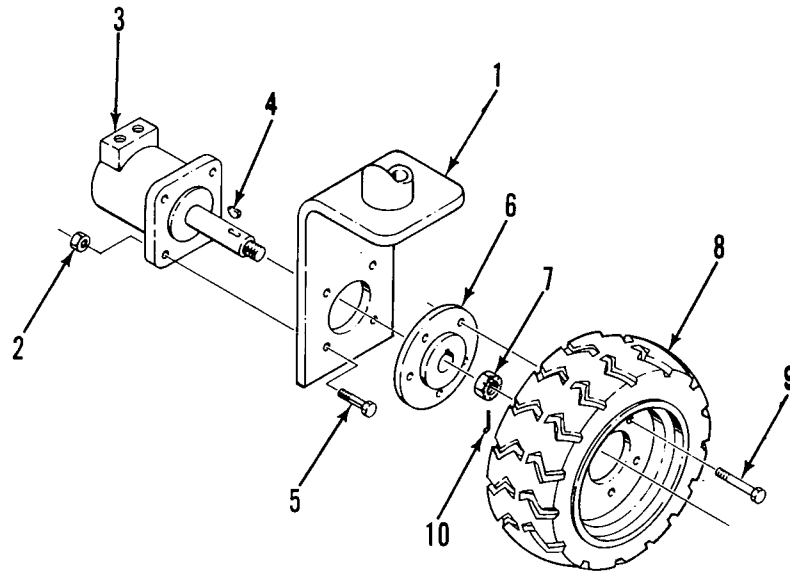

Figure 5-13. Drive Motor Removal
a. Removal (Figure 5-13).
- (1) Park the machine on firm level ground then block the wheels to prevent the machine from rolling.
- (2) Loosen the wheel capscrews (9) on the front corner to be raised.
- (3) Use a 1.5 ton capacity jack to raise the desired front corner.
(1) Refer to Figure 5-13 and position the drive motor (3) on the spindle (1) and secure with capscrews (5) and locknuts (2).
(2) Remove the plugs from the hose assemblies and connect to the drive motor (3).
(3) Install the shaft key (4), hub (6) and locknut (7). Torque the locknut to 350 to 400 ft. lb. Install the cotter pin (10).
(4) Install the wheel (8) with capscrews (9) onto the hub (6). Torque to 40 ft. lb.
(5) Lower the jack and remove. Operate the drive system and check for leaks.